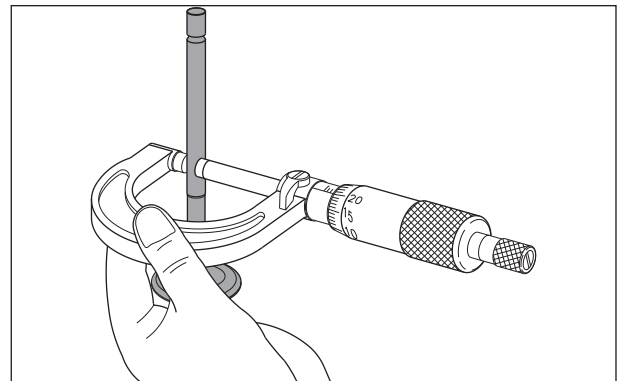

Fig. 3.64
- Inspect each valve for trueness, burning, scratches, abnormal wear or bend. Measure the outside diameter of valve stem on the operational area. (Fig. 3.64)